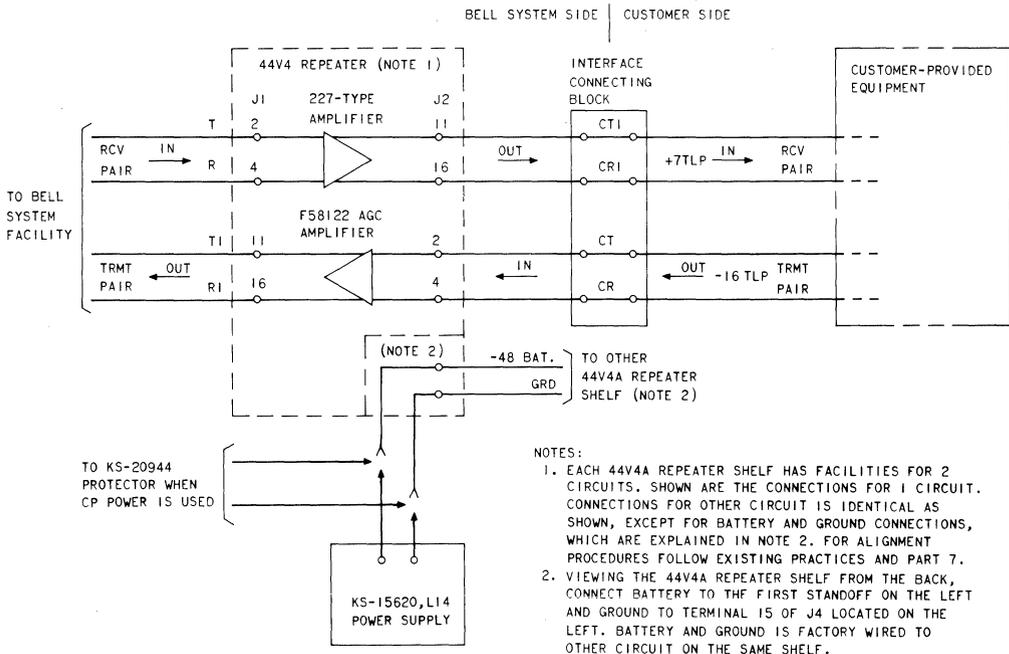

Fig. 2—Connections—Voice Connecting Arrangement C234W
1.02 This section is reissued to include information on the KS-20944 protector, to change Fig. 2, and to add Fig. 3, 4, and 5.
Note: For plug-in components refer to Section AB24.100.01; when automatic control of signal power level is required, order F58122 automatic gain control (AGC) amplifier for use in the **transmitting leg from the CP equipment to Bell System facilities** instead of the standard 227-type amplifier shown in Section AB24.100.01 (see Fig. 2).
6.01 For connecting information refer to Fig. 2, 4, and 5.